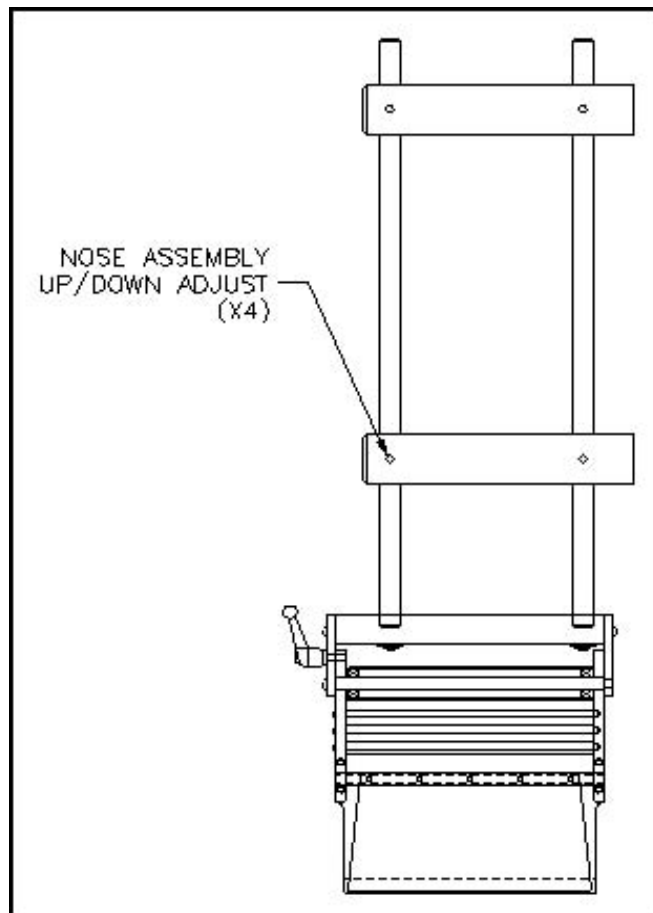

Figure 42 Nose Height Adjustment
3. Position the applicator nose at a 15-25° angle to the side of the conveyor. Adjust the angle by loosening the kip lever shown in Figure 42, moving the peeler plate to the proper angle, and then tighten the kip lever.